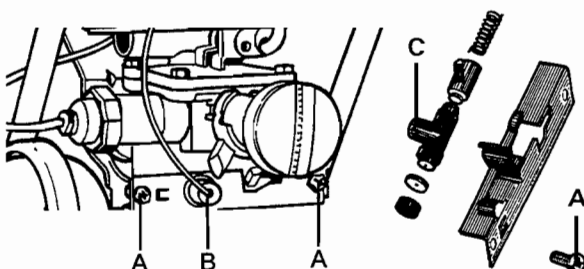

Fig. 18
b) Remove the two screws (A) holding the retaining plate (see fig. 18).